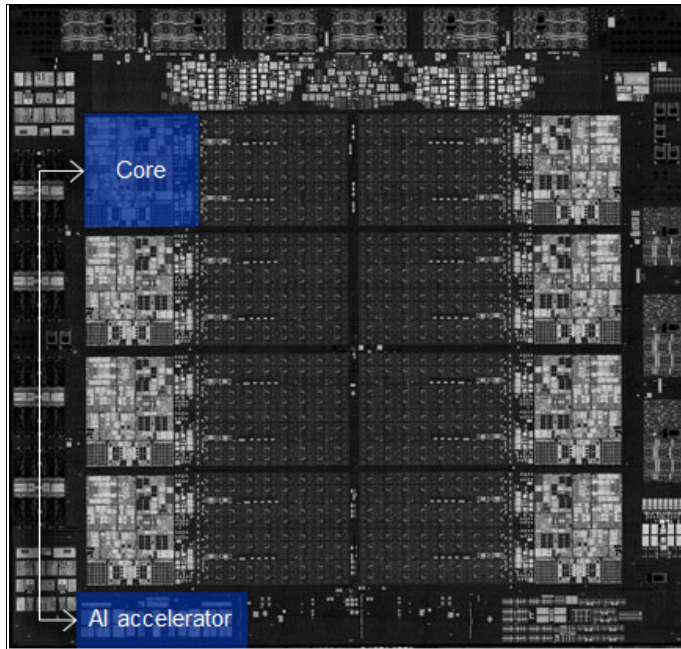

Figure 12-7 IBM z16 A02 and IBM z16 AGZ Processor chip - AIU location
In August 2021 IBM announced new generation of IBM Z processor chip, Telum, with new Artificial Intelligence (AI) accelerator (Figure 12-7), an innovation that will bring incredible value to the applications and workloads running on IBM Z.